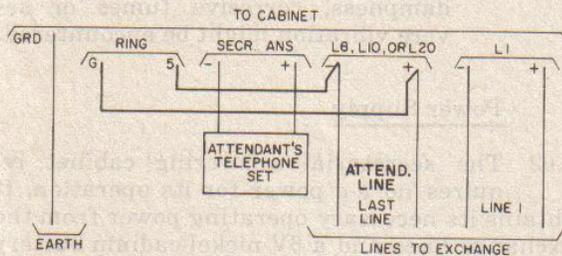

Figure 1. Connections for Attendant's Telephone Set, Principal Arrangement.
2.05 In the principal method of connection, the attendant is assigned one of the lines controlled by a key on the cabinet, the tip (+) and ring (-) conductors of which are cross-connected at the terminal box to the G and 5 terminals, respectively. A standard telephone instrument wired for bridged ringing is connected to the + and - Secr. Ans. terminals, as shown in Figure 1. With this arrangement, an incoming call to the attendant's line will light the associated line lamp and sound the common audible signal at all times. With all keys in the Hold or Release positions in any combination, or with the key for the attendant's line in the Answer position, the ringer in the attendant's telephone set will also sound on such a call. To minimize disturbance, the ringer will not sound if the key of any other line is operated to the Answer position.